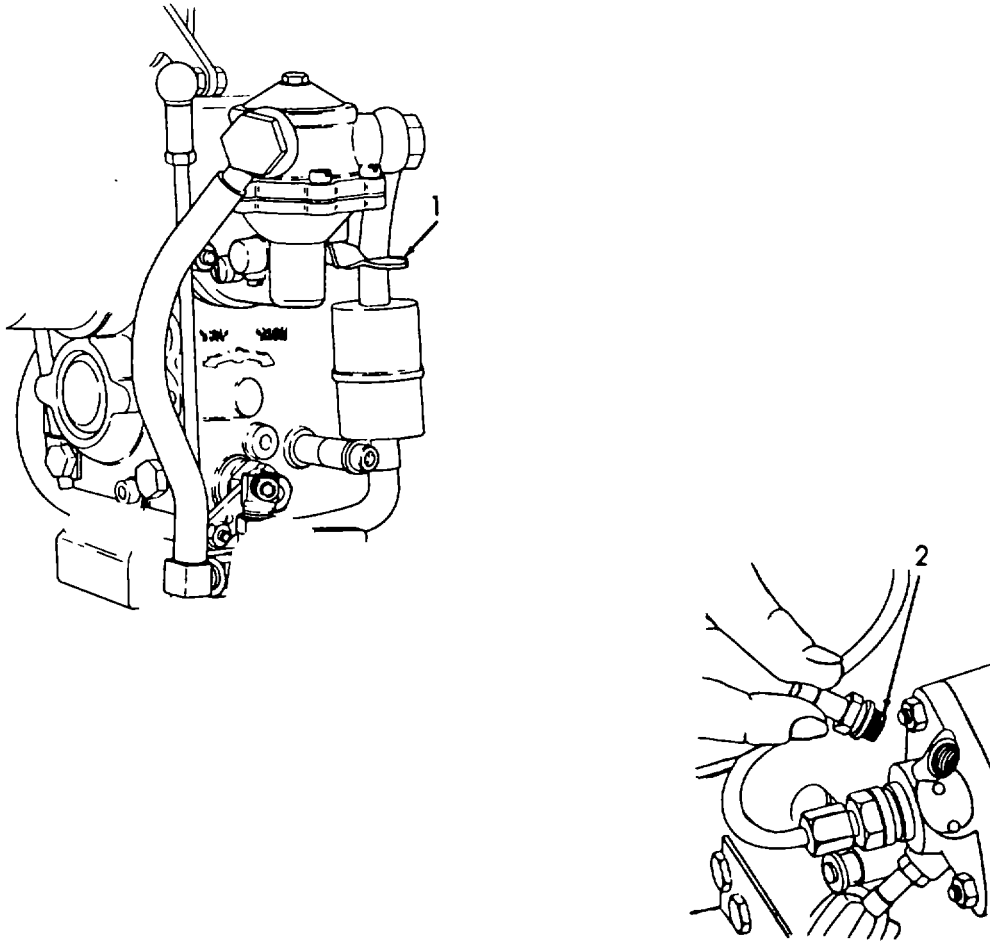

Figure 4-5. Bleeding Fuel System.
- (4) After fuel filter is replaced, bleed fuel injection system (refer to figure 4-5).
- (5) Move throttle control lever to stop position.